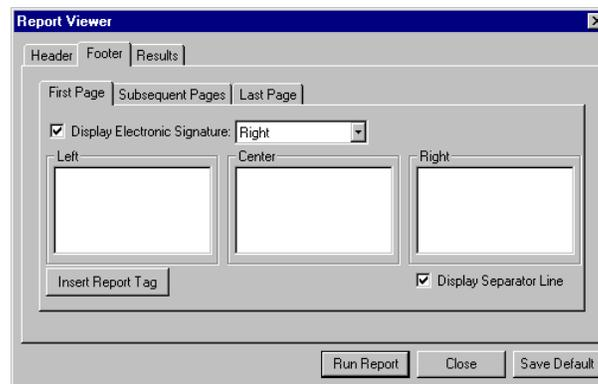

Figure 5.7. Report Viewer Footer tabbed page
9. Click the **Footer** tab to set up the report footers (Figure 5.7.). Follow the same steps as for the **Header** tab.